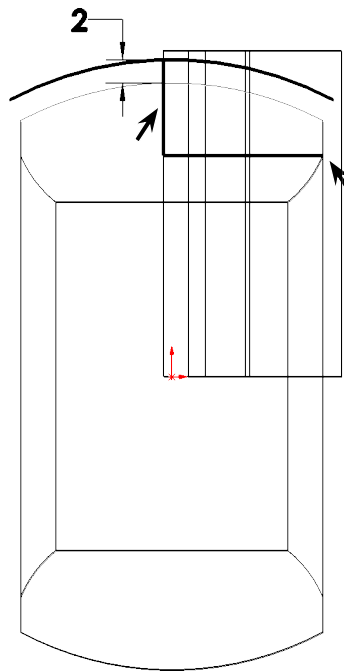

Fig. 21
Step 6. Click **Line**  (L) on the Sketch toolbar.
Step 7. Sketch **horizontal line coincident with curve outer edge and vertical outer edge of Revolve across to vertical edge of the Extrude**. And a **vertical line along edge of Extrude up to offset arc**, Fig. 21.